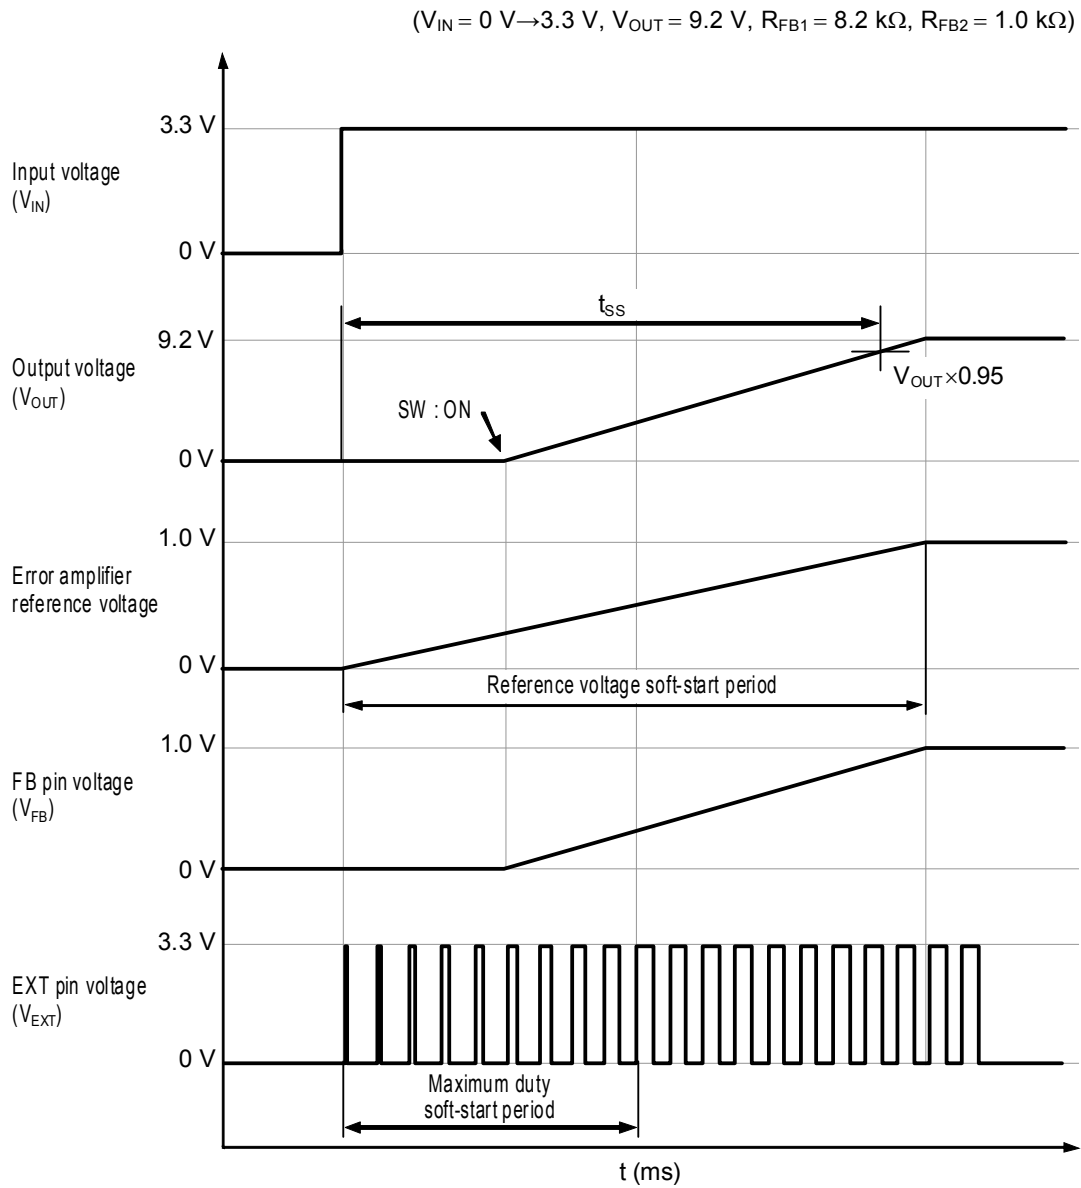

Figure 8
In the circuit where the input voltage is not directly output at shutdown by inserting a switch (SW) between the diode (SD) and  $V_{OUT}$  output, the  $V_{OUT}$  voltage when the  $V_{IN}$  voltage is applied with the SW OFF stays 0 V. Therefore, the voltage of the FB pin stays 0 V and the EXT output is in the step up status between the “H” and “L” levels due to the maximum duty. The maximum duty at this time is approximately 7% and the rush current at power application is controlled. The maximum duty soft start is accomplished by gradually increasing the duty width up to the maximum duty set by the external resistor RDuty (refer to **Figure 8**).